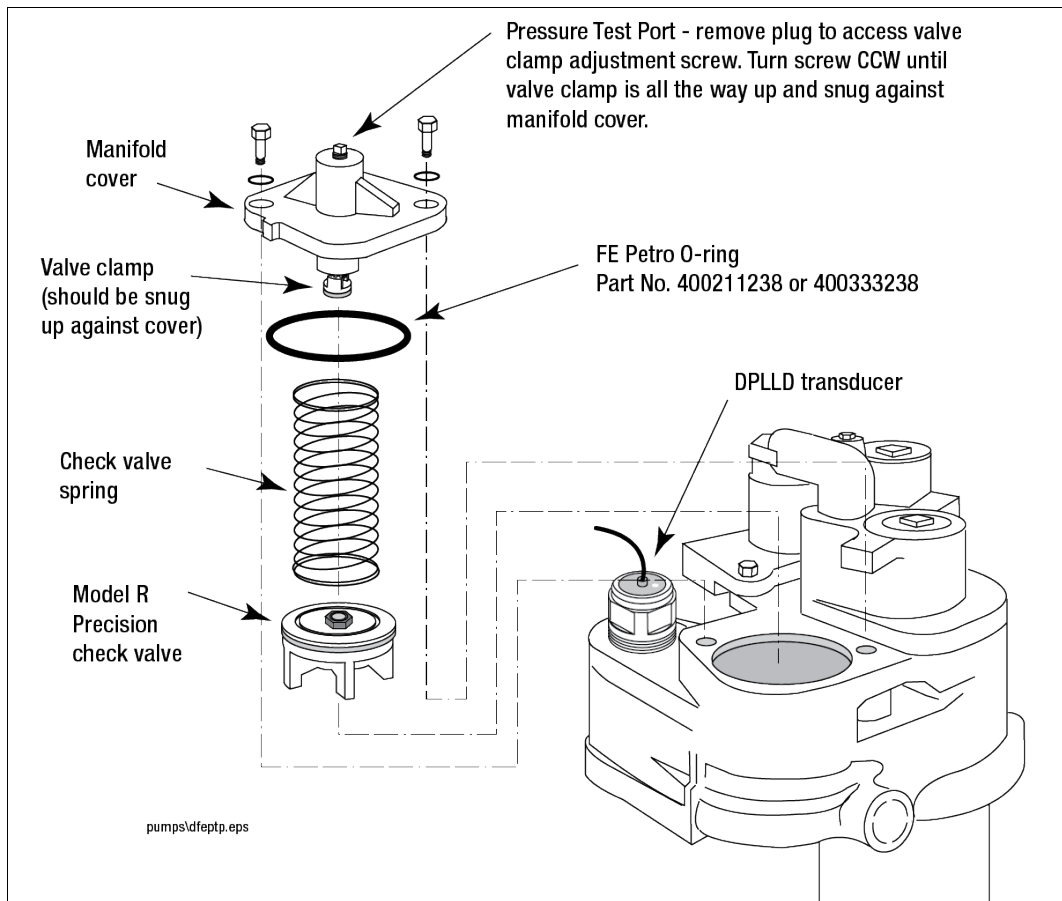

Figure 14. Location of DPLLD Transducer And Model 'R' Precision Check Valve In FE Petro Pump
Install the DPLLD transducer into the 2" NPT port as shown in Figure 14.
4. For DPLLD operation there must be a FE Petro model R precision check valve in the pump. If necessary, replace the current check valve with a model R precision check valve (ref. Figure 14).